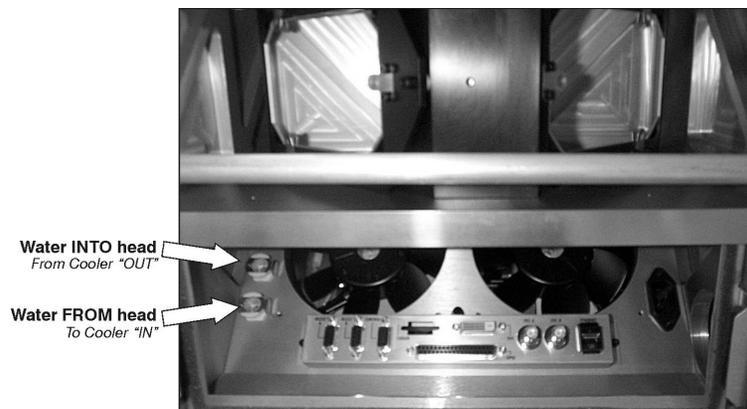

Figure 2.8. Connection of Cooler Hoses
7.7 **CONNECT COOLER HOSES:** Connect both cooler hoses at the head, making sure the connectors “click” into place. NOTE: Make sure the “out” hose from the cooler connects to the “in” connector at the head, and vice versa. See Figure 2.8.
It is recommended that you label the cooler hoses at the opposite end, for proper connection to the cooler. See Figure 2.8.